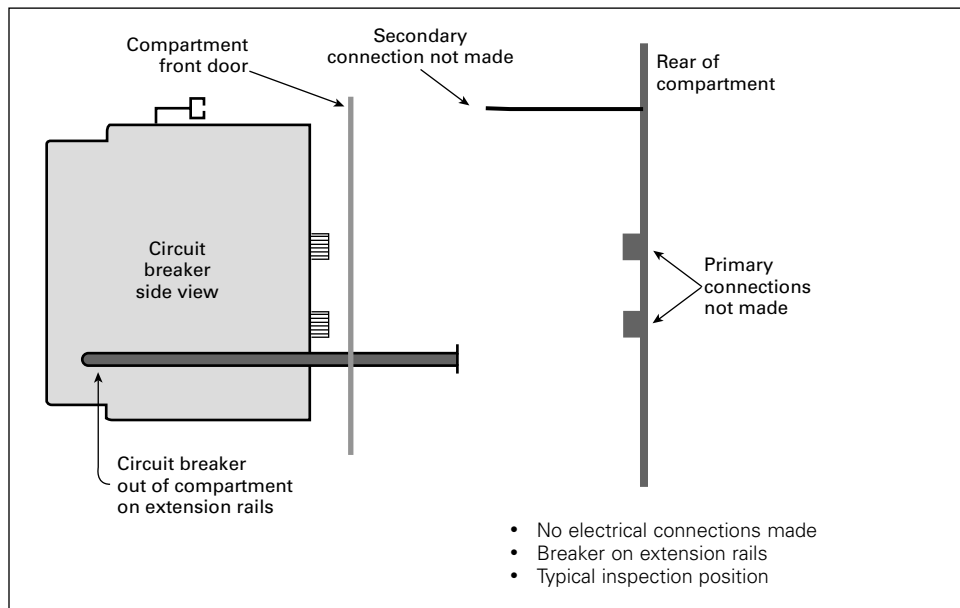

Figure 8. REMOVE position
- REMOVE (withdrawn) (**Figure 8**)